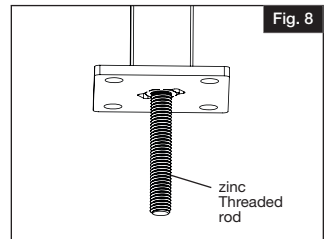

Fig. 8
- Use a $\frac{1}{2}$ " x 13 TPI x 12" zinc threaded rod (sold separately), thread it into the hole on the bottom of the post plates until about $3\frac{1}{2}$ " remain extended out under the post (Fig. 8).